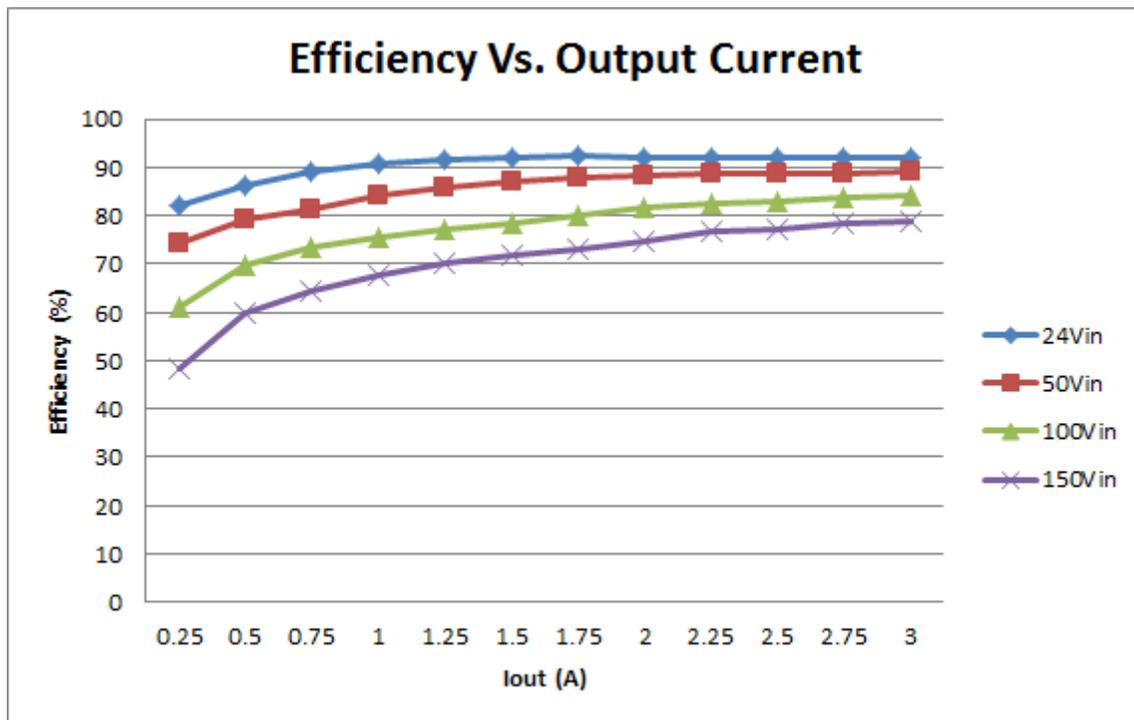

Figure 7. Efficiency (%) vs. Load Current (a) at Various Input Voltages
Figure 7 shows an efficiency plot taken from a prototype board, with efficiency (%) vs. load current (A).